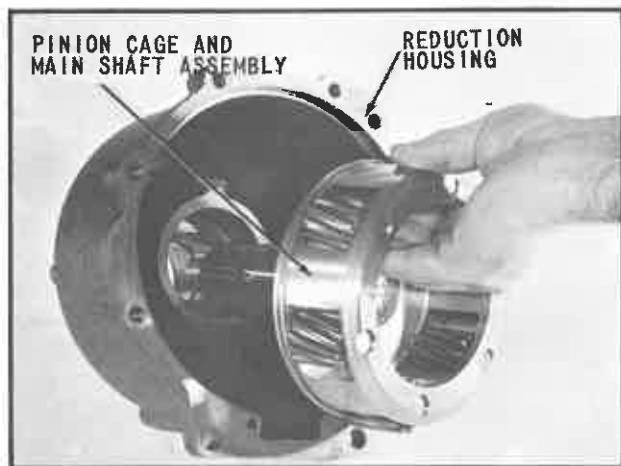

Fig. 29 Assembling Pinion Cage and Main Shaft Assembly
9. Remove main shaft and pinion cage assembly from reduction housing as shown in (Fig. 29).
25. Install pinion cage and main shaft assembly into the bearing as shown in (Fig. 29). If the shaft does not assemble completely into rear bearing, do not use force. The shaft may be pulled fully into the bearing as the main shaft nut is assembled.